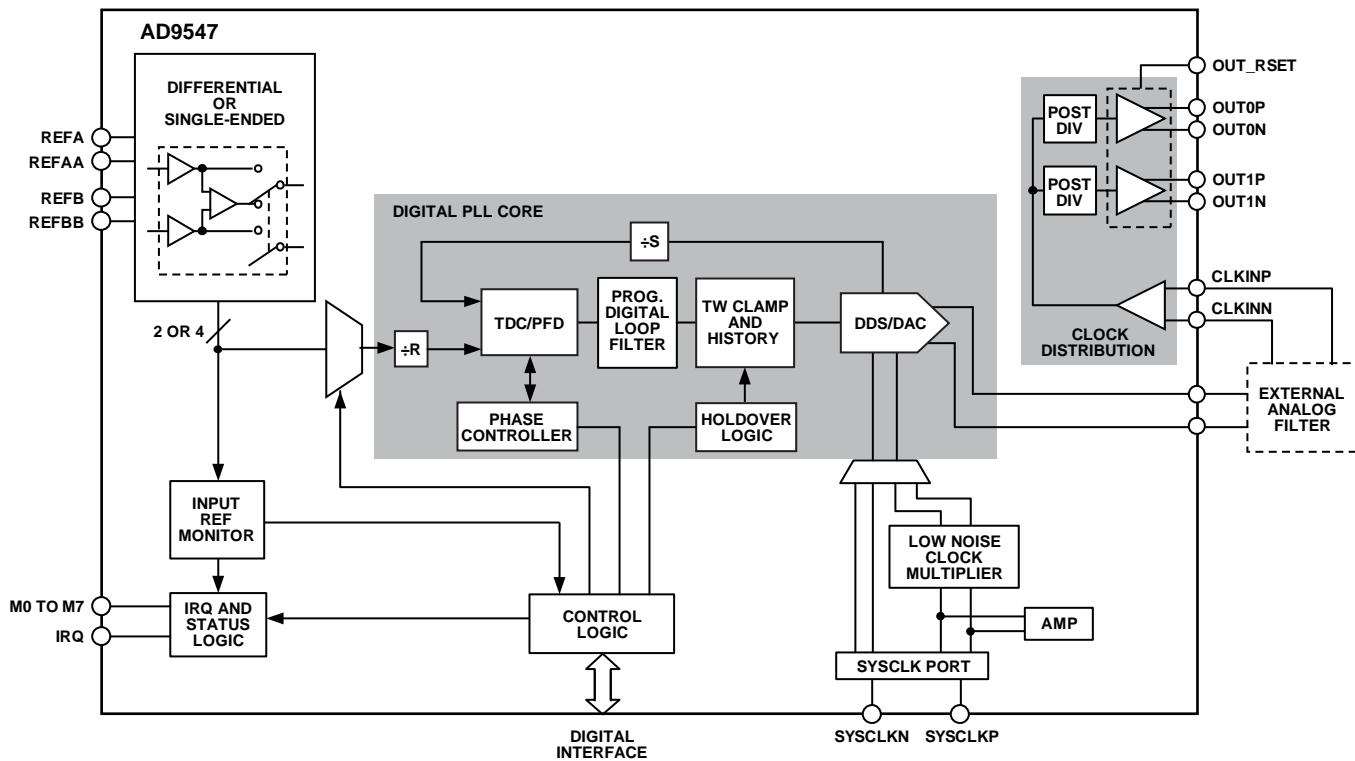

Figure 31. Detailed Block Diagram
The device offers manual and automatic reference switchover capability if the active reference is degraded or fails completely. A direct digital synthesizer (DDS) and integrated DAC constitute a digitally controlled oscillator (DCO). The DCO output is a sinusoidal signal (450 MHz maximum) at a frequency that is determined by the active reference frequency and the programmed values of the reference prescaler (R) and feedback divider (S). Although not explicitly shown in Figure 31, the S divider has both an integer and fractional component, which is similar to a fractional-N synthesizer.